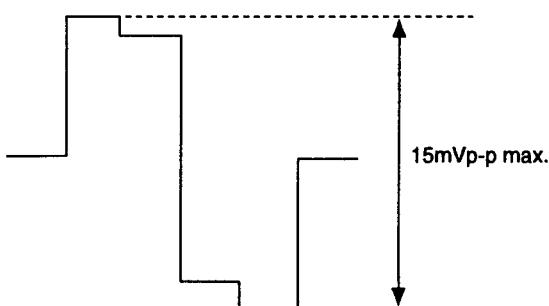

Fig. 5-11
3. Connect the probe of an oscilloscope to IC404 ⑩ PIN or TP402.
5. Adjust [SUB PHASE] so that the output waveform will be minimum (15 mVp-p or less). (Fig.5-11)
4. Adjust [SUB PHASE] so that the output waveform will be minimum (15 mVp-p or less). (Fig.5-11)